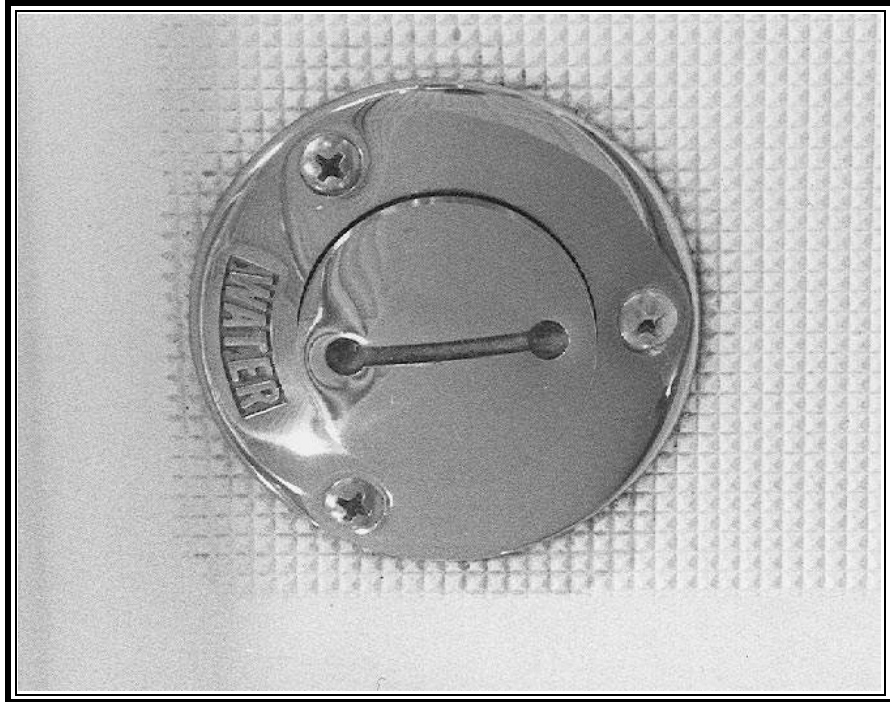

Figure 5-4: Water Fill
5. Fill the fresh water tank with fresh water. The fill is located on the starboard side deck, near the aft spring line cleat (see Figure 5-4). The tank should be filled until water runs out of the vent on the hull side, just below the fill.